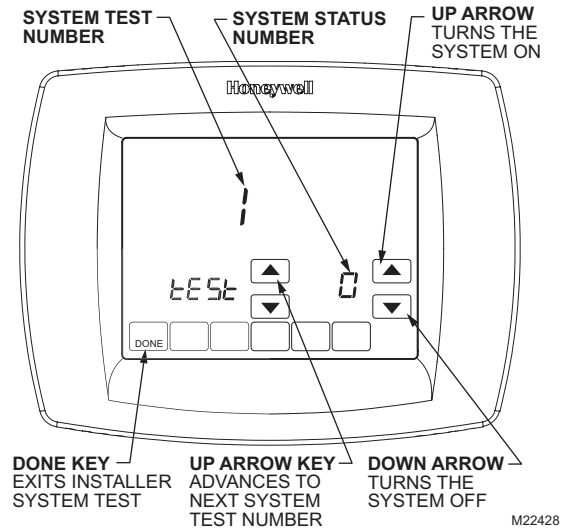

Fig. 28. Review thermostat buttons used during Installer System Test.
3. See Fig. 28 to review how the thermostat buttons are used during the Installer System Test. See Table 6 for available Installer System Tests.